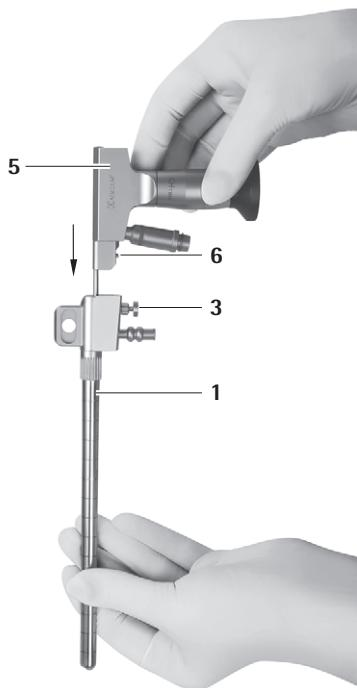

Fig. 2
- Lock the endoscope **5** in the MINOP InVent trocar **1**, see Fig. 2,